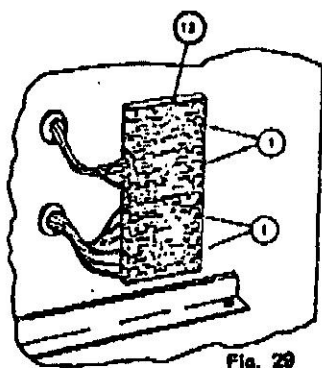

Fig. 29
- F. Secondary Isolating Contact Block (Fig. 29). Removal of contact block is accomplished by removing wiring and mounting screws illustrated in Fig. 29.